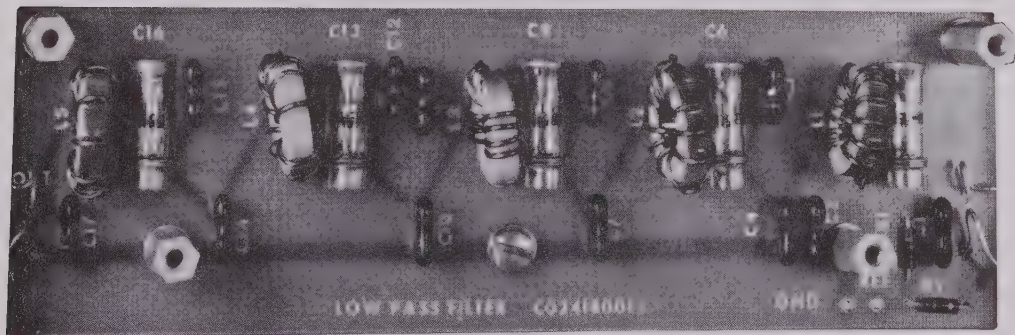

Figure 3-53. Board A4 32 MHz Low-Pass Filter
d. **32 MHz Low-Pass Filter, A4.** (See Figure 3-53) Output from the second mixer is applied to the low-pass filter to remove all but the difference frequencies from the signal. These difference frequencies provide the desired range, 1 kHz-32 MHz, of the Signal Generator. To preserve the flat frequency response characteristic, determined by the leveling amplifier of the proceeding stages, the filter has been designed for a ripple of 0.1 dB or less in the pass band. The filter is isolated from the mixer output with a resistor network and the 50 ohm impedance is matched to the following amplifier. The matching resistor being located on module A5.